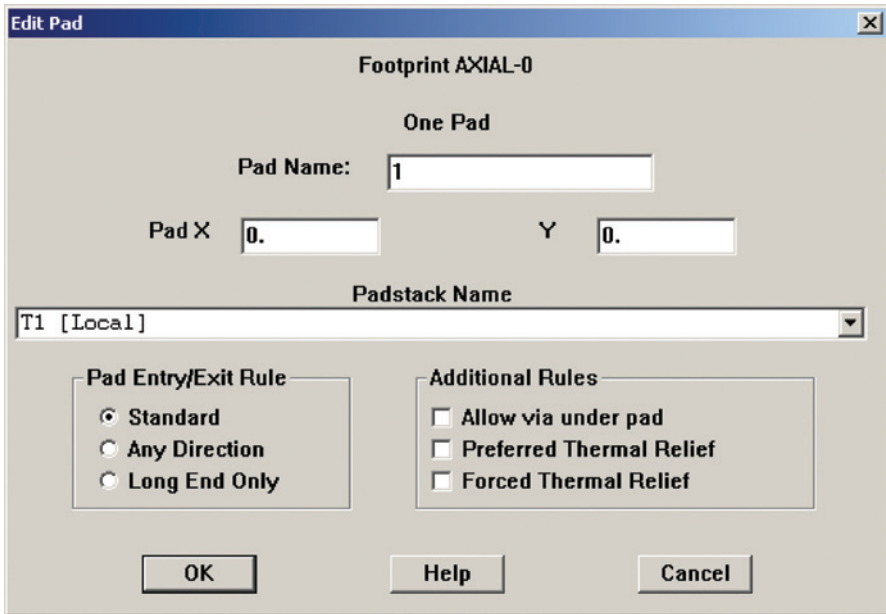

Figure 8-18 The Edit Pad dialog box.
The **Edit Pad** dialog box is shown in Fig. 8-18. **To display the Edit Pad dialog box:**
4. The **Edit Pad** dialog box shown in Fig. 8-18 will be displayed.
The padstacks that are included in the **Padstacks** spreadsheet are limited to the seven template padstacks and the padstacks of the footprint you have open. The **Padstacks** spreadsheet is used to make detailed changes to a padstack; it can be used to make new padstacks; and it can be used to save a padstack to a library (either the padstack library or any other library you chose). If you save a padstack to a library, it will become a public entity and will be visible in the **Padstack Name** selection list from within any board layout whenever the **Edit Pad** dialog box (see Fig. 8-18) is displayed.